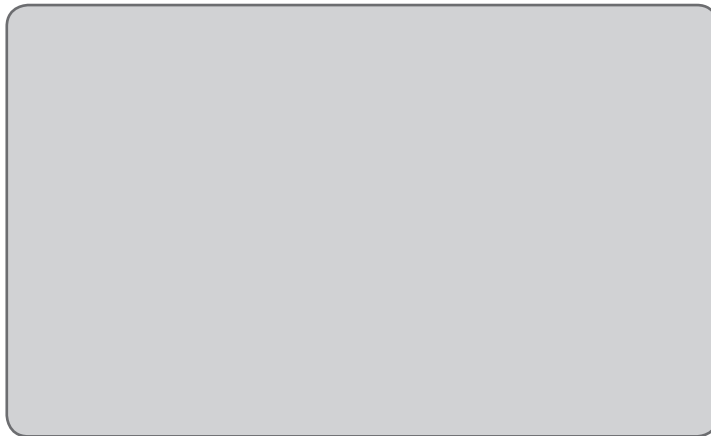

Figure 31: Recommended seated position for putting the Thigh FS Cuff on.
1. Sit in a stable position on the edge of a chair. See Figure 31.